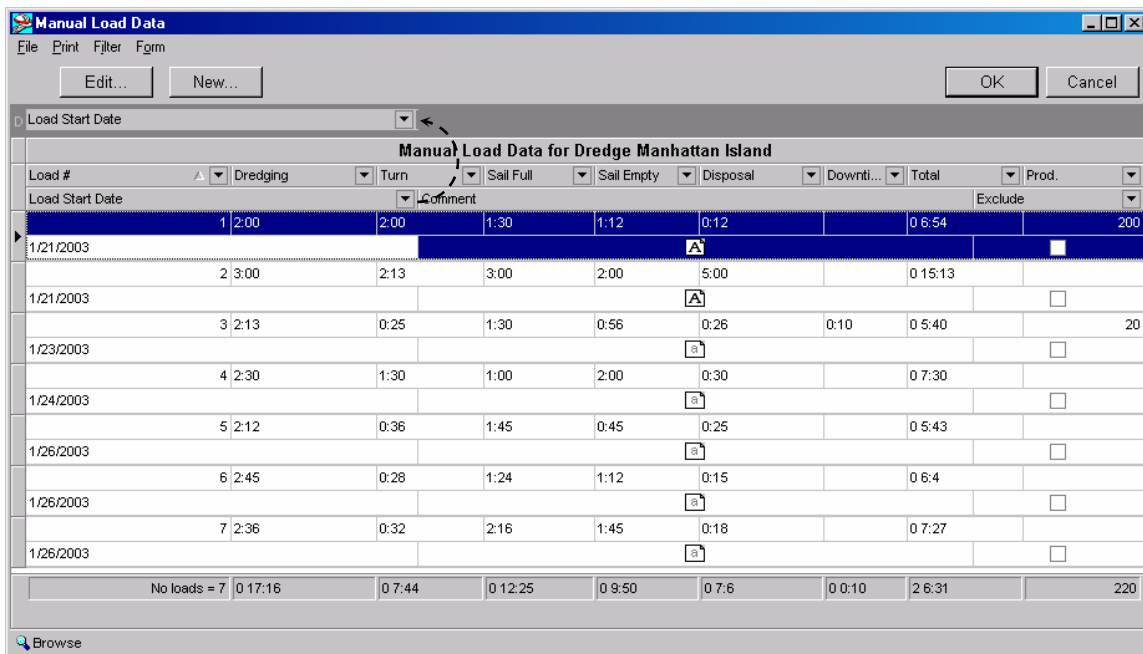

Figure 1.41 To group by a particular column, drag the column header into the dark gray area.
1. Drag the column header of the field to group the data by into the dark gray area of the manual load data window as seen in Figure 1.41.